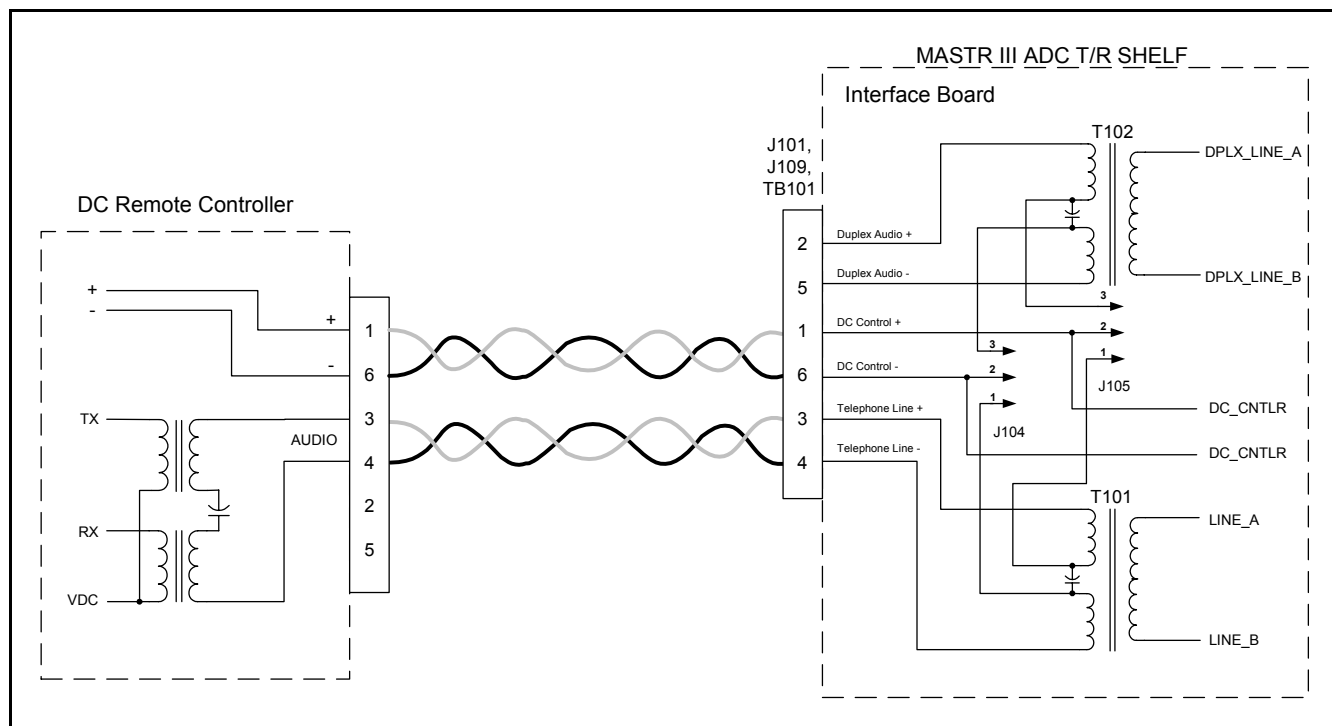

Figure 7-3: Metallic Control Pair, Audio Pair
1. Connect the audio pair to TB101-3 (red) and TB101-4 (green). Refer to Figure 7-3.